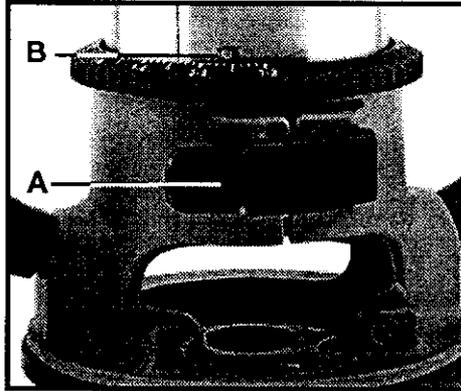

Fig. 1
- (a) Open the clamp (A) Fig. 1.
- (b) While holding the base, turn the motor unit COUNTER-CLOCK-WISE until the lower pin (B) in the motor housing is disengaged from the groove in the base.
2. Open the clamp (A) Fig. 1, and set the power unit in the base unit.
3. Align the lower pin of the motor unit (B) Fig. 1 with the groove in the base.